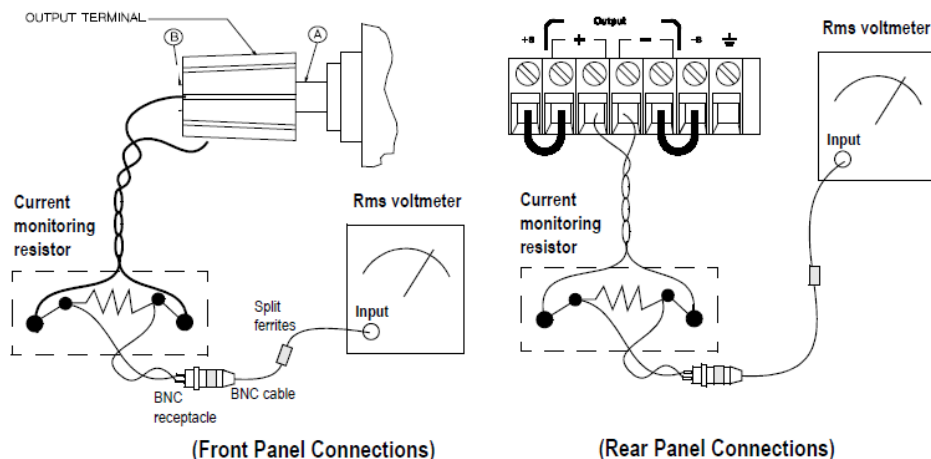

Figure 8-6 CC PARD (ripple and noise) connections
For better measurement results, it is recommended to make the connection between the BNC receptacle and the output terminals as short as possible, and to use the recommended split ferrites with the BNC-to-BNC cable as shown in **Figure 8-6**.
- 1 Turn off the power supply and connect the output to be tested as shown in Figure 8-6 with the current monitoring resistor $0.2\ \Omega$ (R_{M2}) across output terminals. Connect an rms voltmeter across the current monitoring resistor as shown in Figure 8-6.